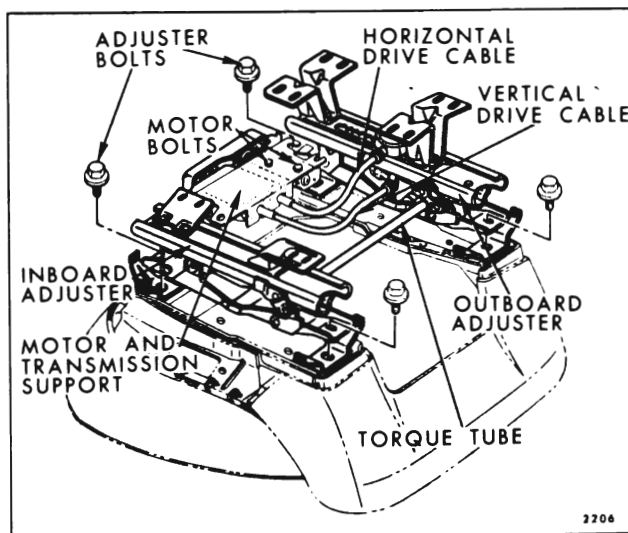

Fig. 15-42 - Four-Way Bucket Seat Assembly
3. If outboard adjuster is being removed, disconnect bolt, horizontal and vertical drive cables from vertical gearnut and horizontal actuator (Fig. 15-42).
5. Remove adjuster-to-seat bottom frame front and rear attaching bolts securing adjuster to be removed (Fig. 15-42).
2. Disengage torque tube from outboard adjuster (Fig. 15-42 and 15-43) and remove torque tube assembly.